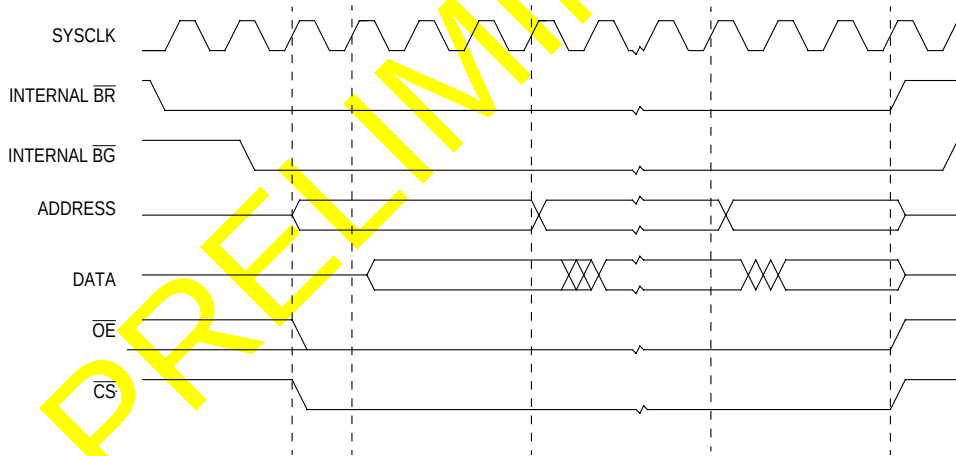
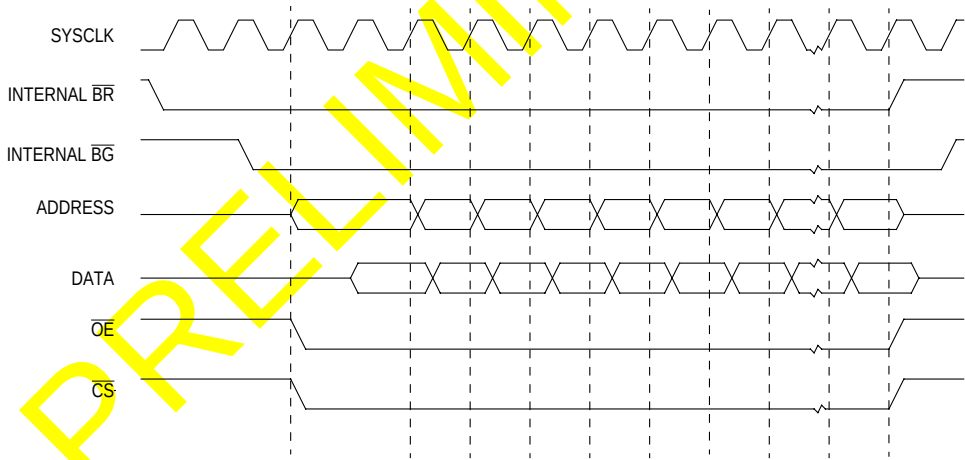

Figure 8-2. Three Clocks per LCD DMA Transfer (Two Wait States)
Figure 8-3. One Clock per DMA Transfer (0 Wait States)
The screen DMA controller periodically generates a bus request ($\overline{BR}$) signal to the MC68EC000 core and when it receives a bus grant (BG) signal, it performs a 16- or 8-word memory burst to fill the line buffer. You can program the number of DMA clock cycles (1 to 16) per transfer to support systems with variable memory speed requirements. When the DMA transfer begins, one clock cycle is added to the first data word has one clock cycle added to the transfer and the number of clock cycles selected. As shown in Figure 8-2 and Figure 8-3, this gives the initial chip-select memory more time without generating a clock cycle penalty on subsequent data transfers of the line fill.
As shown in Figure 8-2 and Figure 8-3, data is efficiently fetched from memory. Each burst is limited to 8/16 words, which reduces the possible latency for other peripherals, such as the interrupt controller. For example, the average latency for LCDCLK = 5MHz with a 16-word burst is approximately 2.4 μ s.
8.2.2.1 LCD DATA BUS SIGNALS. The LD3–LD0 signals output bus transfers pixel data to the LCD panel for display. Data is arranged differently on the bus depending on the LCD data-width mode selected, as shown in Figure 8-3. System software can also program the output pixel data to be inverted. See **Section 8.6.2 LCD Polarity Configuration Register** for more information.